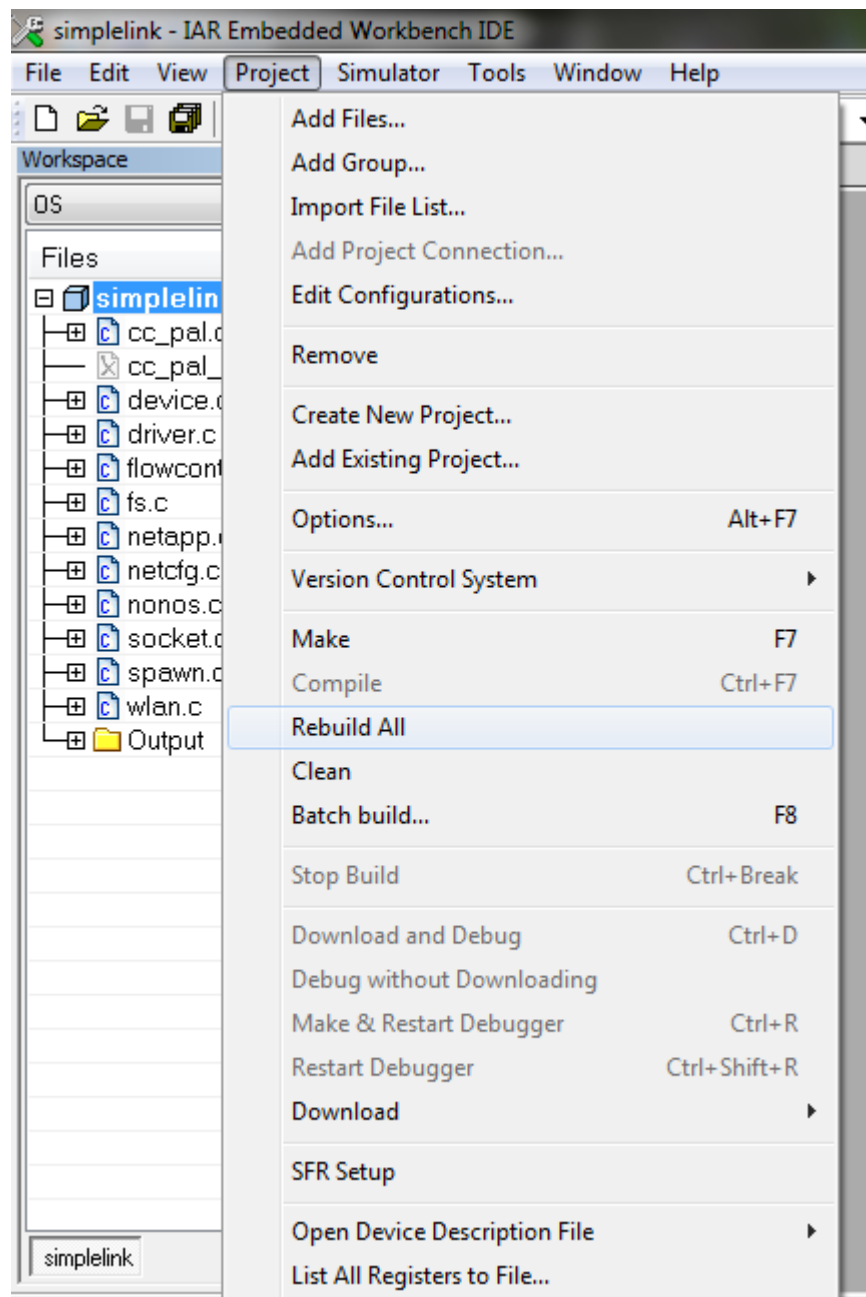

Figure 20. Rebuild the *simplelink* Project.
3. Rebuild the *simplelink* project by selecting *Project>Rebuild All* from the menu as shown in Figure 20.